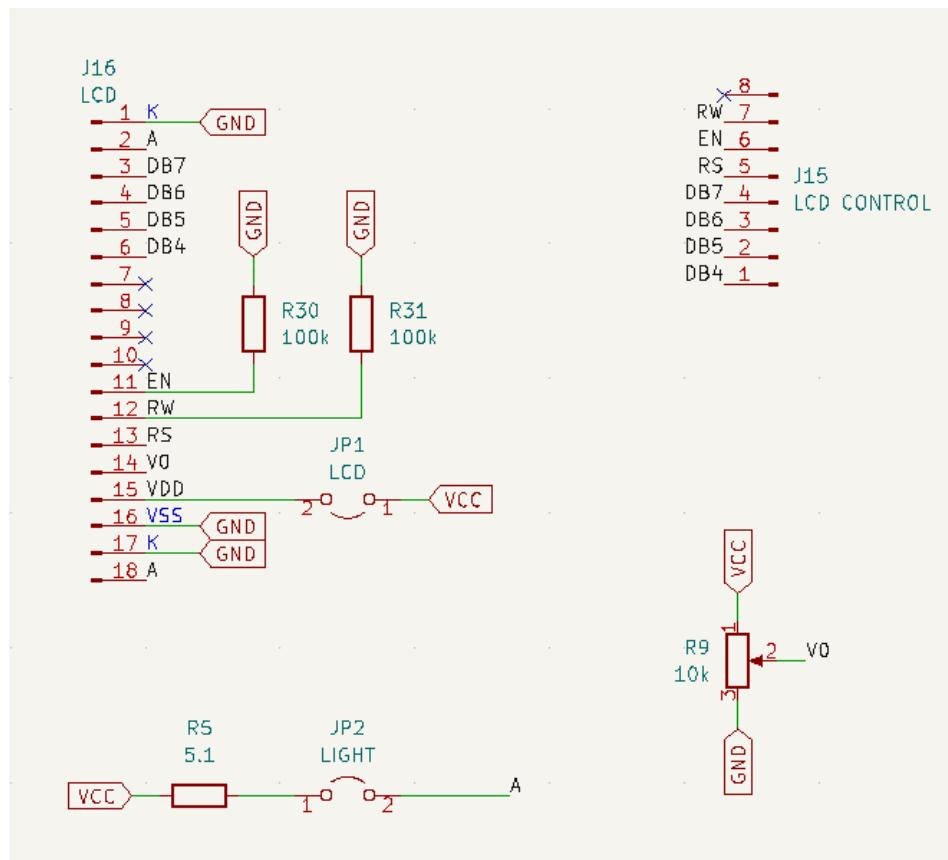

Figure 4: Schematic of the LCD circuitry
- An HD44780-compatible² *LCD* module can be plugged into J16. These types of LCD need a supply voltage (via JP1), a voltage for their LED backlight (via R5 and JP2), and a third voltage to set the contrast (adjustable via R9). Seven signal lines (RS, EN, R/W, and DB4..7) are used to communicate with the LCD and these are routed to J15 from where they can be wired to some microcontroller pins. See Figure 4. Since communicating with these LCDs is a bit complicated, a driver is available in this repository. Most HD44780-compatible LCD modules come with one of two standard pin layouts. This board can accommodate both kinds. For more details, see Section 2.2.2.